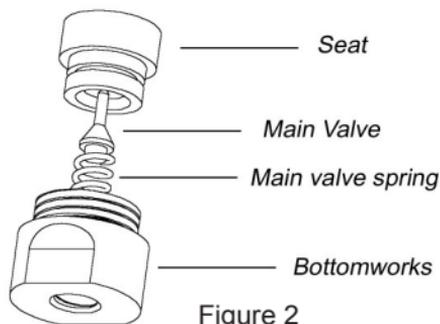

Figure 2
Step 2: Remove the seat, main valve and main valve spring as shown in figure 2. Set them aside so that they remain clean.